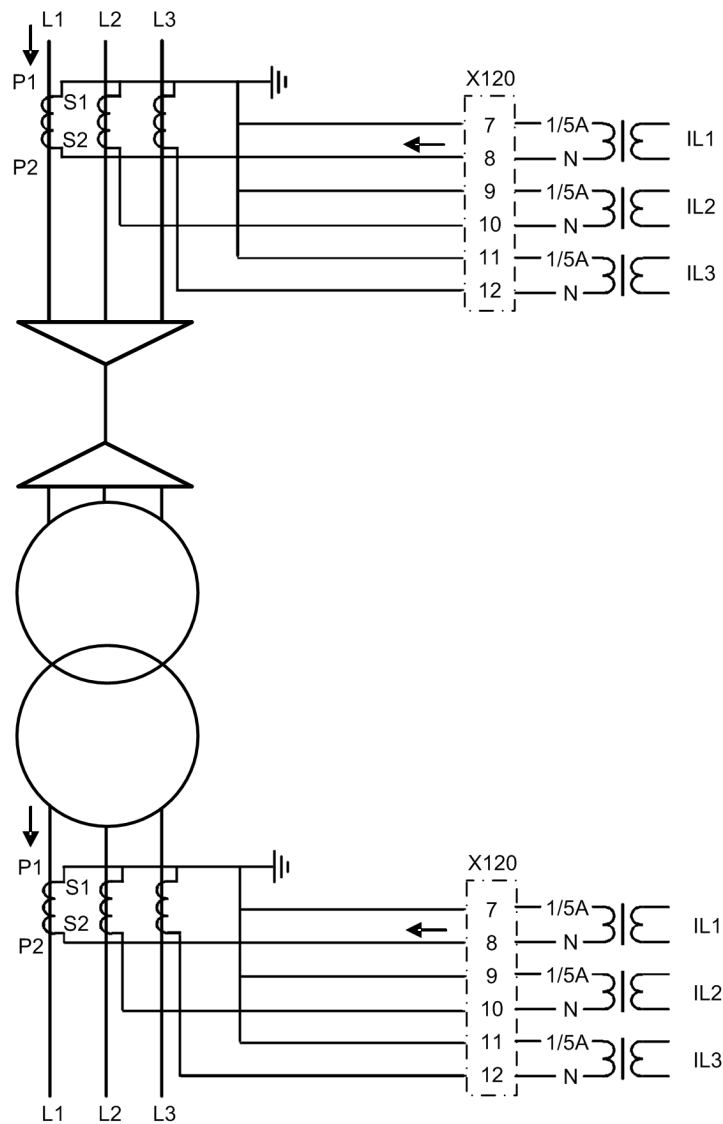
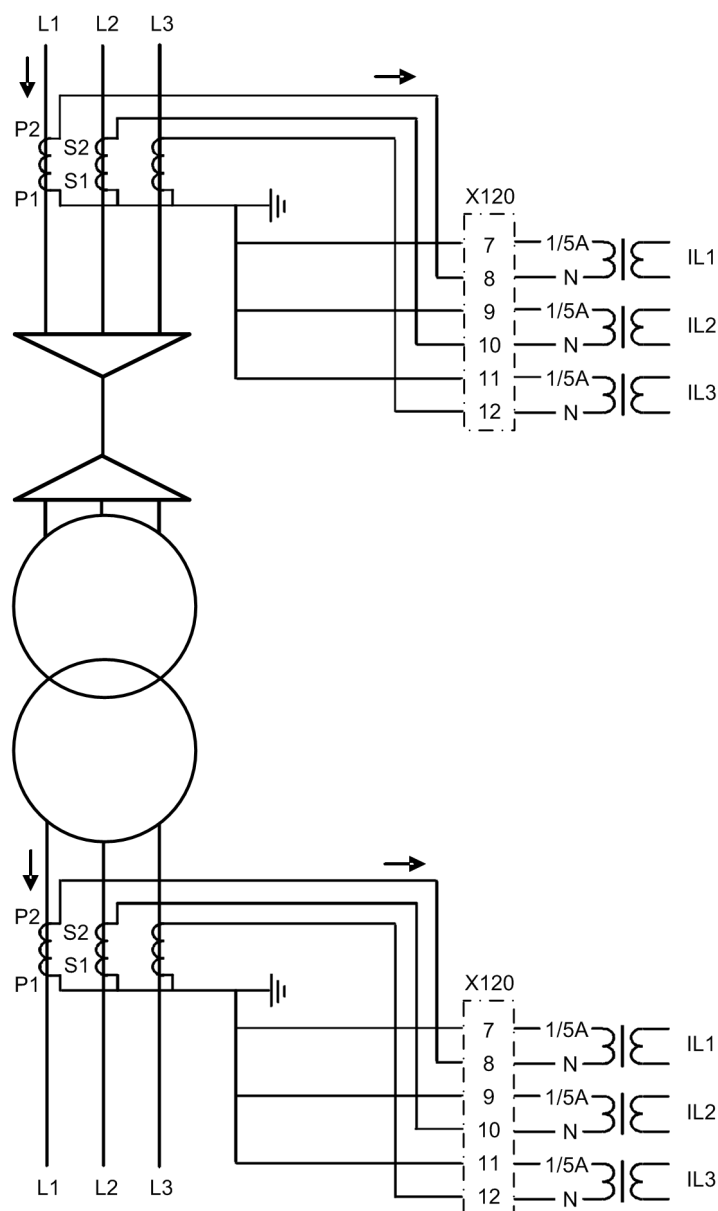

Figure 238: Connection example of current transformers of Type 2
Figure 239: Connection example of current transformers of Type 2
- If the positive directions of the winding 1 and winding 2 protection relay currents equate, the *CT connection type* setting parameter is “Type 2”. The connection examples of “Type 2” are as shown in the Figure 238 and Figure 239.